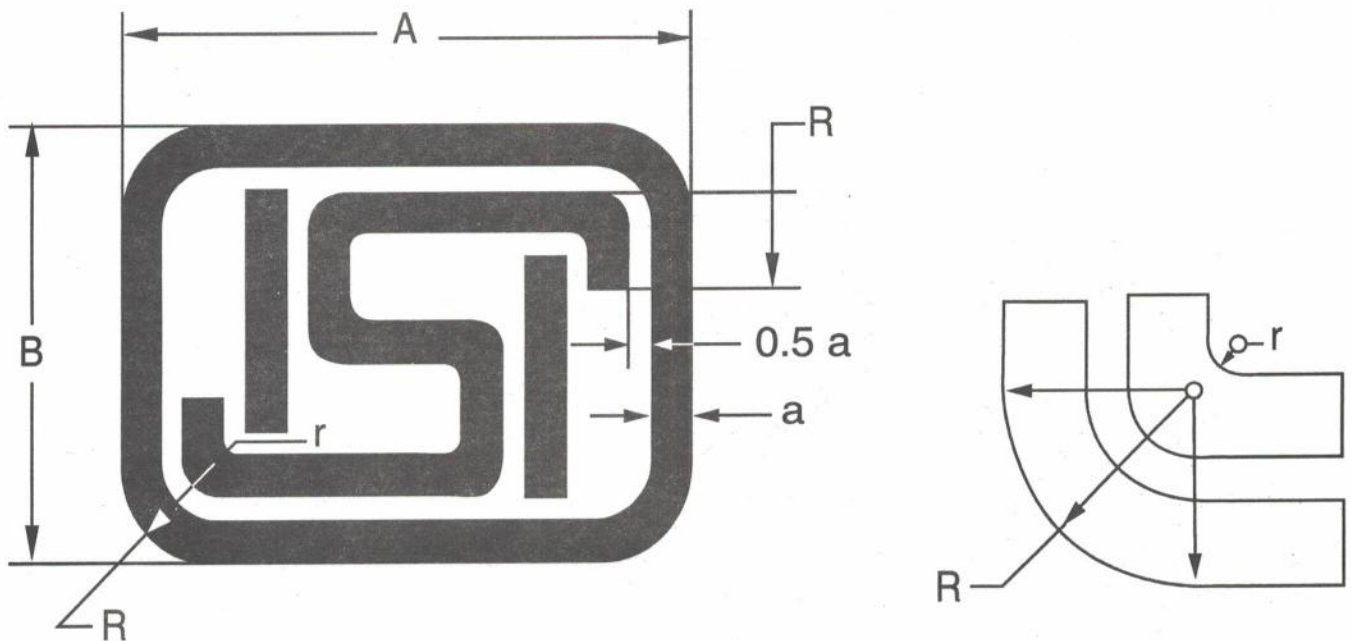

FIG. 1
- a) Photographic reduction in any size of Figure 1 is permissible; and